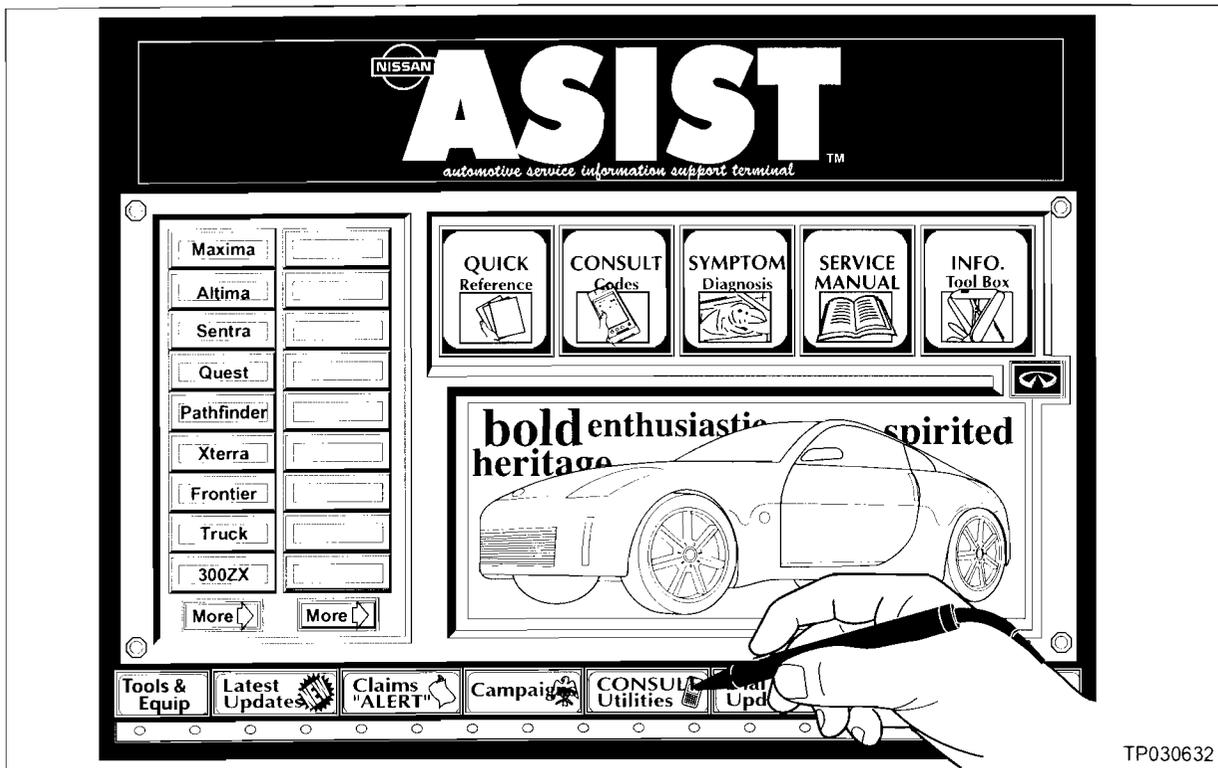

Figure 3
- From the ASIST PC main menu screen, select **"CONSULT UTILITIES"** (see Figure 3).